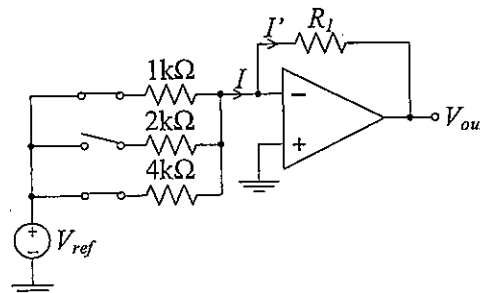

Figure Q2(d)
- List THREE (3) processor technologies and their benefits. [6 marks]
- Selection of the best processor must be aligned to the application. List THREE (3) efficiencies that must be considered during the selection process and identify ONE (1) method to improve each of these efficiencies. [3 marks]
- (c) Narrowband Internet of Things (NB-IoT) is a low-power wide-area network (LPWAN) technology developed by 3GPP to enable a wide range of new IoT devices and services. Briefly discuss TWO (2) strengths and TWO (2) weaknesses of NB-IoT comparing to LoRa technology. [6 marks]
- (d) For the digital-to-analog converter (DAC) shown in Figure Q2(d), determine R_f if $V_{ref} = 5V$ and $V_{out} = -3.125V$. [4 marks]